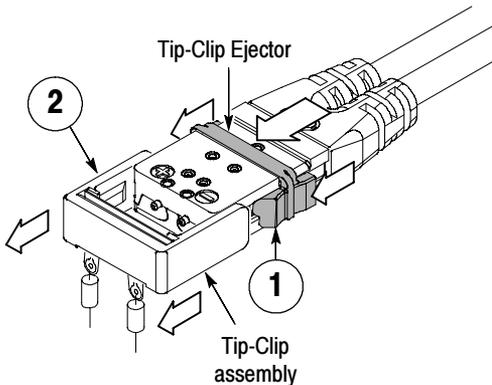

Figure 8: Removing a Tip-Clip assembly
1. Grasp the sides of the Tip-Clip Ejector and slide the Tip-Clip Ejector towards the front of the probe tip. You will feel the Tip-Clip Ejector click past a ridge on the probe tip and the Tip-Clip assembly will loosen. See Figure 8.